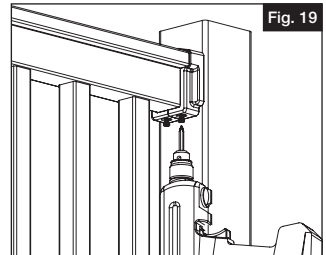

Fig. 19
- d. While tightly squeezing the bracket cover closed, pre-drill using a  $\frac{5}{32}$ " drill bit through the two holes underneath. Then, drive two #10 x 1" square drive screws through the cover, metal bracket and into the top rail (Fig 19).